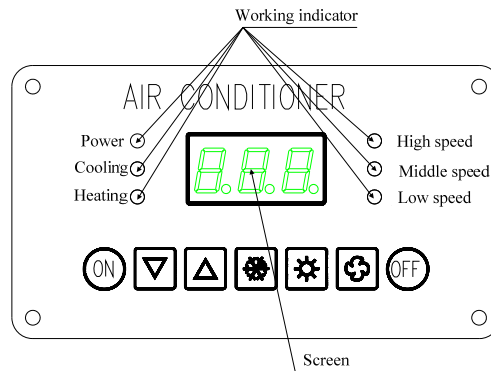

Figure 6
(1) Introduction of panel (Refer to Figure 6)